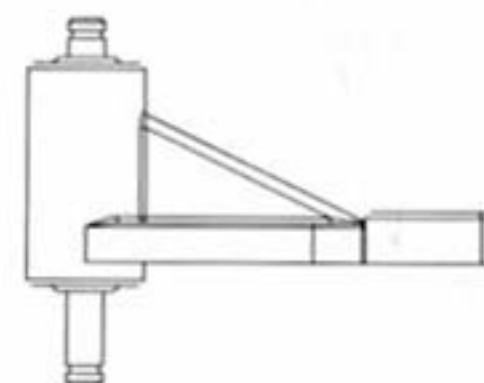

Figure 14A
- ❑ Step 10. Insert a 3/32" x 3/16" bearing (40) into the two large holes in the bottom of the steering brace (41). Insert the other two bearings (40) into the two holes in the main chassis (11).
- ❑ Step 11. Insert a 3/32" hinge pin (21) through the hole in the steering idler arm (36) and position it as shown in Figure 14A. Place the servo saver assembly and the steering idler arm (36) into the bearings (40) in the chassis (11) so that the installed drag link is in the front.
- ❑ Step 12. Place the steering brace (41) on top of the servo saver assembly and steering idler arm (36) being sure that the bearings (40) slide over the pins.
- ❑ Step 13. Attach the steering brace with two 4-40 x 3/8" cap-head screws (3) through steering brace (41) and into chassis (11).